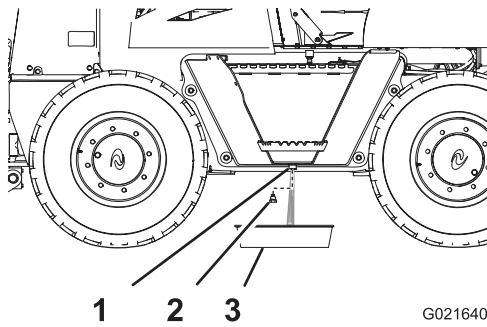

Figure 51
2. Unscrew the drain plug from the fuel tank and drain the water (Figure 51).
3. When clean fuel appears, install the drain plug and tighten it securely (Figure 51).